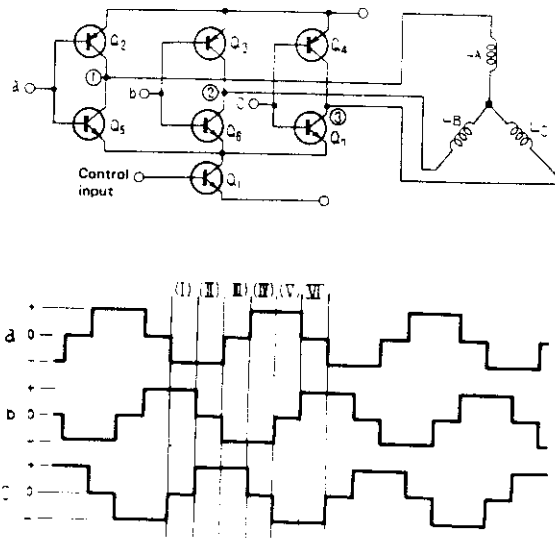

Fig. 18
1. The signals employed in the switching of Q2 ~ Q7 in Fig. 18 are generated by 3 Hall elements, and applied to terminals a, b, and c via the position signal formation circuit.